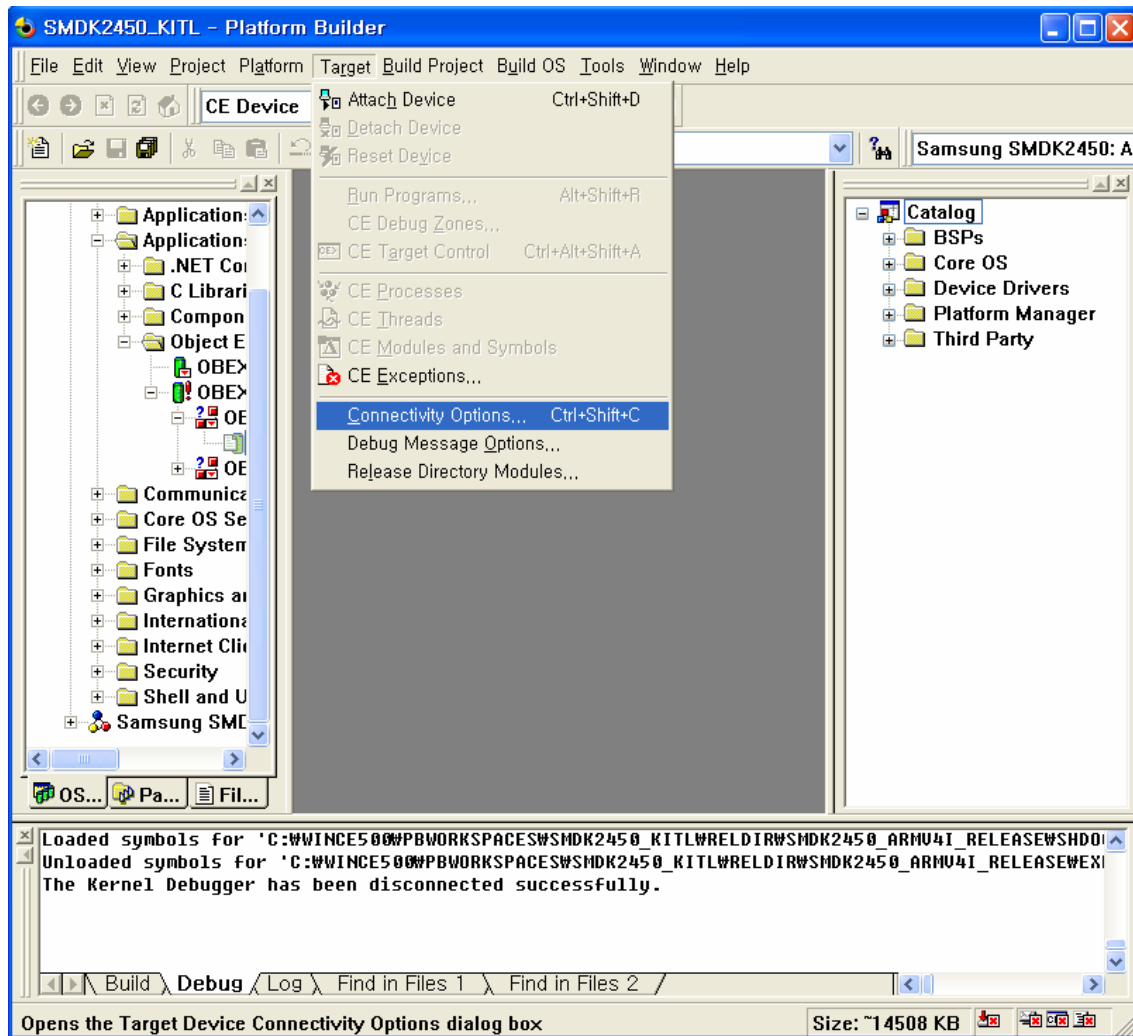

Figure 6-29 Selecting Connectivity Options
5. On the Target menu in the Platform Builder window, click Connectivity Options... as shown below. Target Device Connectivity Options window appears on your screen. Select None from Download drop down menu box and USB from Transport drop down menu box as shown in figure 6-29.